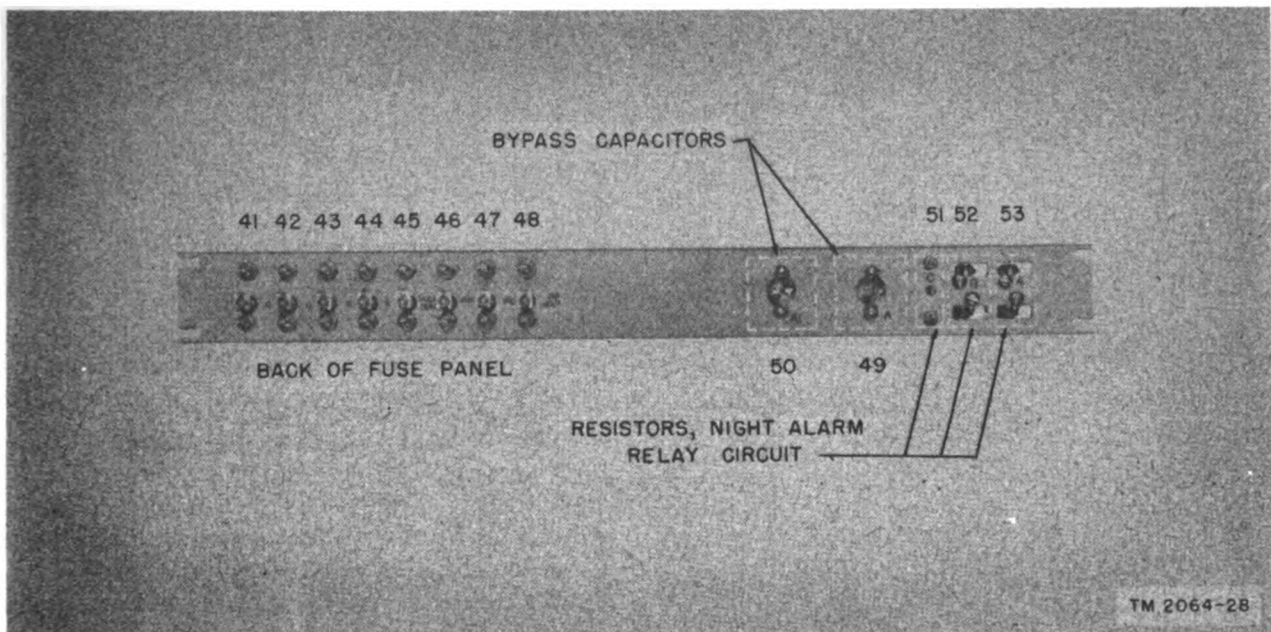

Figure 7. Mounting plate for fuse block, wiring side.
c. FUSE MOUNTING PLATE. Mounted upon this plate (fig. 7) is the fuse block, a pair of 4-mf (microfarad) capacitors, two 3-ohm resistors, and a 5,000-ohm resistor for the night alarm relay circuit.